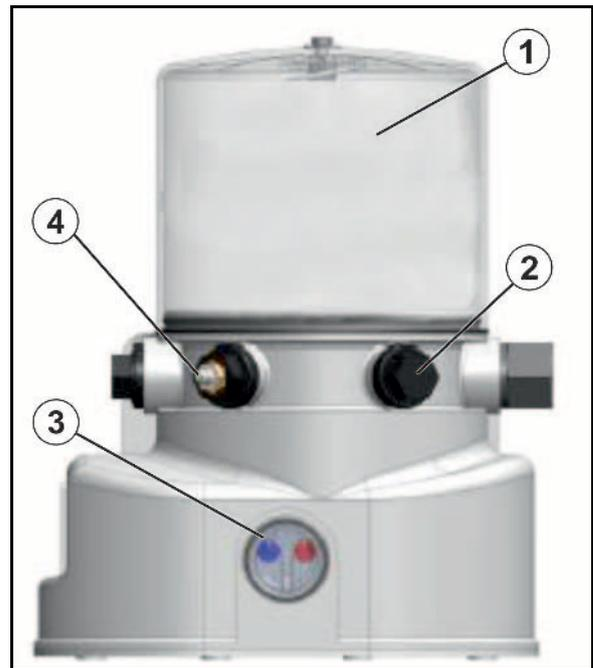

Fig. 36
1. Mount the holder tube (Fig. 36/1) with four screws (Fig. 36/2) on the outside of the boom.
2. Screw two additional weights (Fig. 36/3) onto each holder tube (Fig. 36/4) and secure.